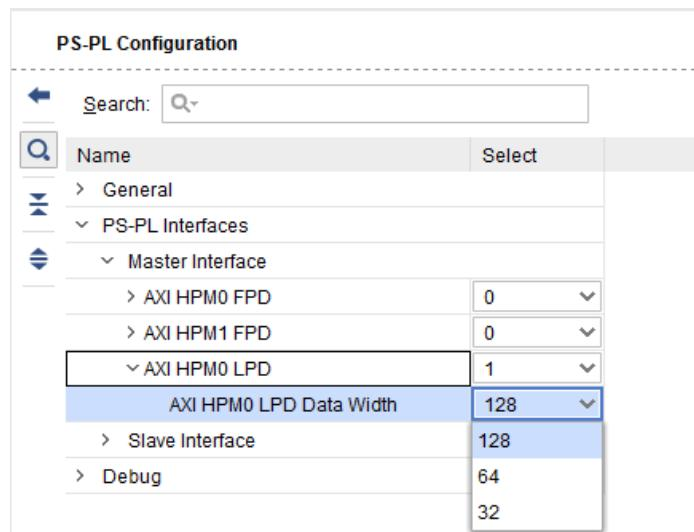

Figure 6-7: Set Data Width for AXI HPM0 LPD
3. Expand **AXI HPM0 LPD** and set the **AXI HPM0 LPD Data Width** drop-down to **128 bit**, as shown in Figure 6-7.